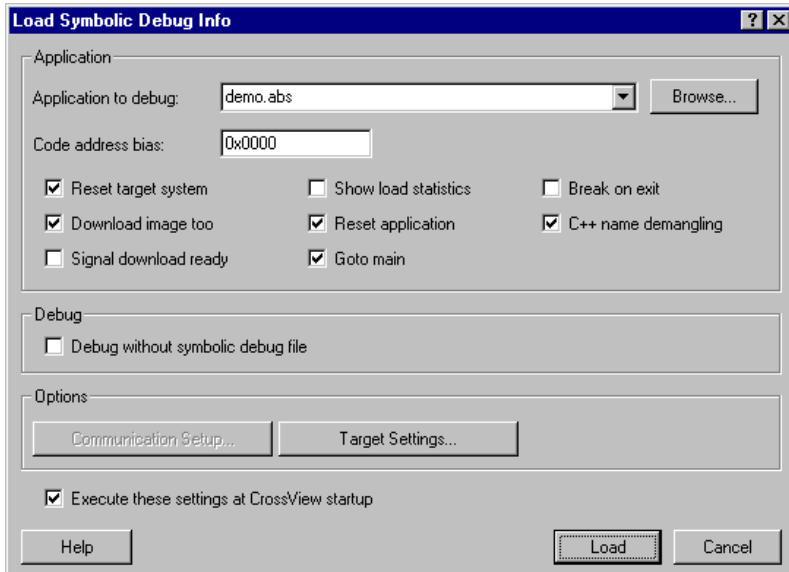

Figure 1-7: Loading Symbolic Debug Information
- Select **File | Load Symbolic Debug Info...** from the menu. This opens up the Load Symbolic Debug Info dialog box, as shown in figure 1-7.